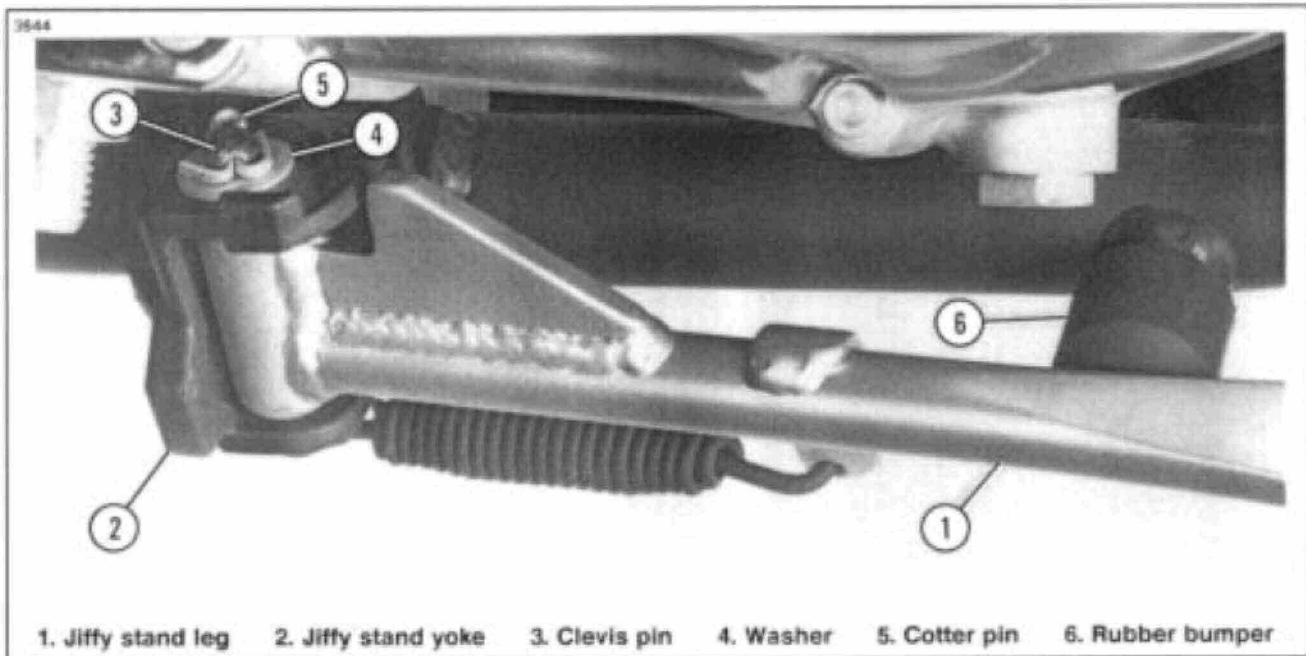
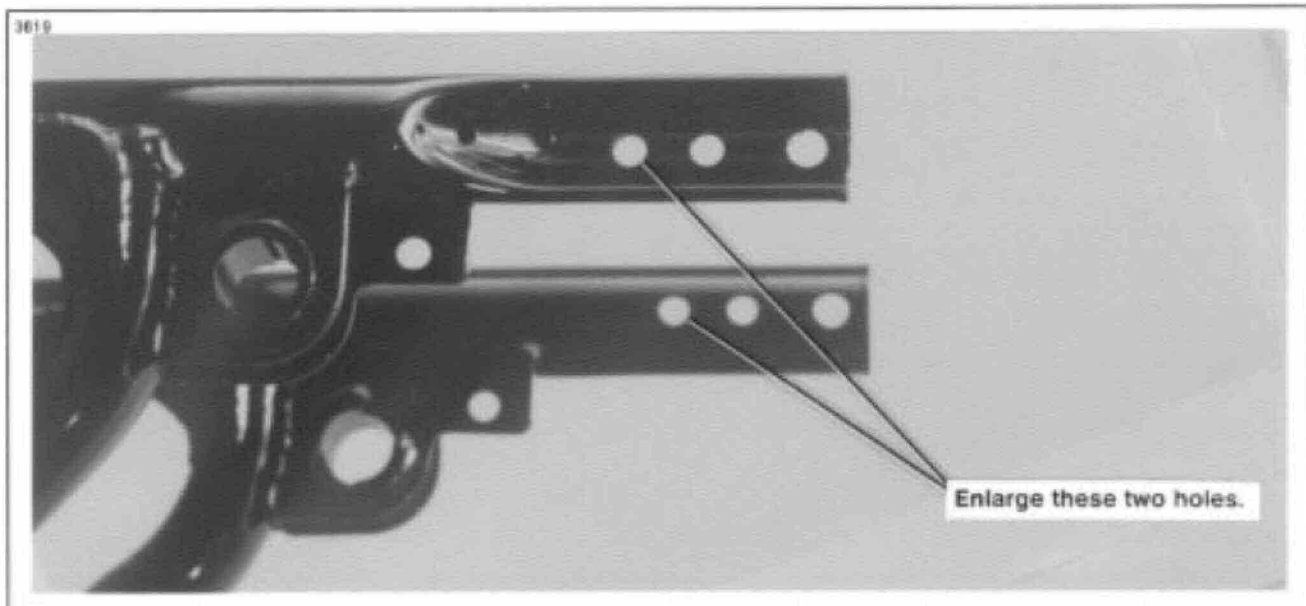

Figure 2. Jiffy Stand (Installed)
Figure 3. Frame Hole Enlargement (Right and Left Rear Turn Signal Assembly Mounting Bolt Holes)
4. See Figure 2. Lift jiffy stand leg (1) upward, aligning pivot hole of jiffy stand leg with slotted upper hole of yoke (2). Fully insert clevis pin (3) through holes in jiffy stand leg and yoke.
5. Install washer (4) over end of clevis pin and against upper surface of yoke. Insert cotter pin (5) through hole in end of clevis pin. Bend ends of cotter pin apart to secure.
6. Press rubber bumper (6) onto mounting stud on frame.
8. See Figure 3. Use a $\frac{13}{32}$ -in. (0.406-in.) twist drill bit to enlarge the diameter of the two holes shown (right and left rear turn signal assembly mounting bolt holes). Apply black touch-up paint to the exposed metal perimeter surface of each enlarged hole.